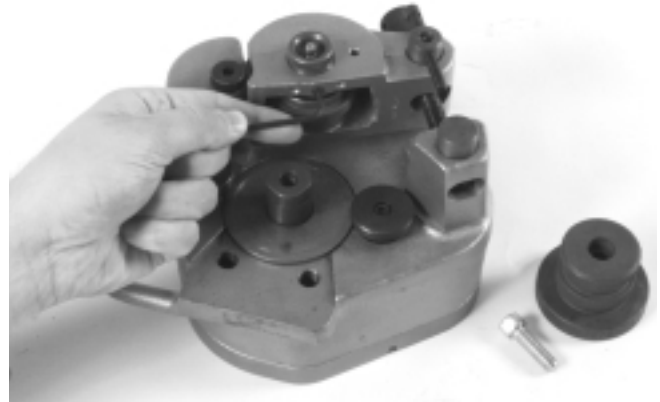

Figure 9 – Loosening Set Screw in Reaction Arm
5. Using a 1/8" hex key, loosen set screw in reaction arm and remove groove roll shaft (*Figure 9*).